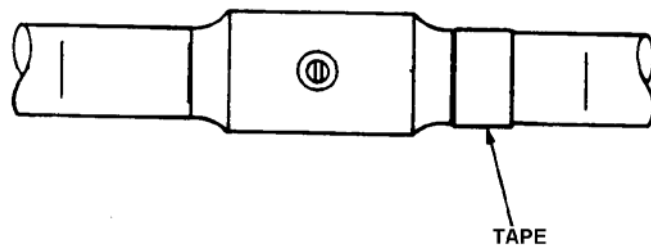

Figure 6. Taping the Insertion Mark
h. To aid in positioning the coupling, apply two wraps of tape at the insertion mark on one tube (Figure 6). Check the tape location by positioning the test coupling so that it is butted against the tape. Both tube ends must be visible in the window.